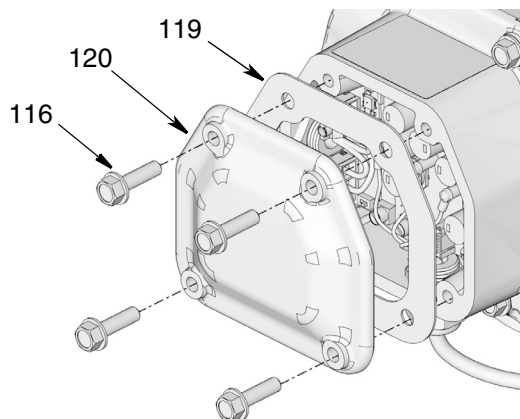

FIG. 70
5. Replace control board gasket (119) and cover (120) with screws (116) (FIG. 70) being careful not to pinch any wires. Tighten bolts securely. Torque to 17-19 ft lbs (23.05-25.76 N.m).